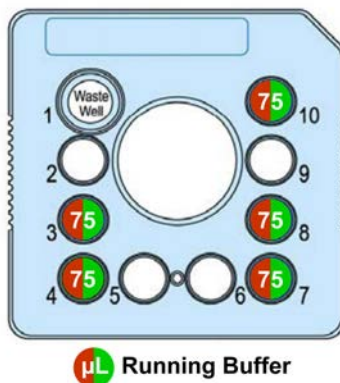

Figure 1: Chip Preparation
4. Add **75 µL** of the Running Buffer solution to wells 3, 4, 7, 8, and 10 of the chip (as shown in Figure 1).